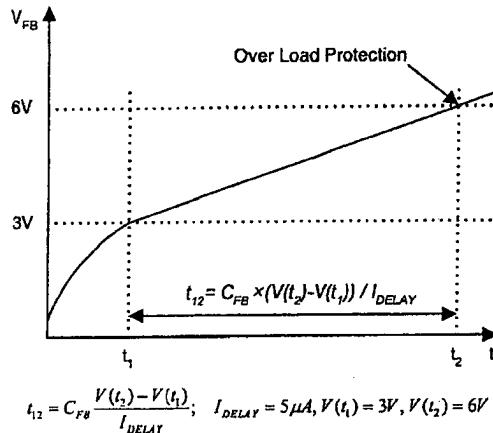

Figure 6. Over Load Protection (OLP)
4.1 Over Load Protection (OLP): Overload is defined as the load current exceeding a pre-set level due to an unexpected event. In this situation, the protection circuit should be activated in order to protect the SMPS. However, even when the SMPS is operating normally, the Over Load Protection (OLP) circuit can be activated during the load transition. In order to avoid this undesired operation, the OLP circuit is designed to be activated after a specified time to determine whether it is a transient situation or an overload situation. In conjunction with the Ipk current limit pin (if used) the current mode feedback path would limit the current in the Sense FET when the maximum PWM duty cycle is attained. If the output consumes more than this maximum power, the output voltage (Vo) decreases below its nominal voltage. This reduces the current through the optocoupler LED, which also reduces the optocoupler transistor current, thus increasing the feedback voltage (V_{FB}). If V_{FB} exceeds 3V, the feedback input diode is blocked and the 5μA current source (I_{DELAY}) starts to slowly charge C_{fb} up to Vcc. In this condition, V_{FB} increases until it reaches 6V, when the switching operation is terminated as shown in Figure 6. The shutdown delay time is the time required to charge C_{fb} from 3V to 6V with 5μA current source.